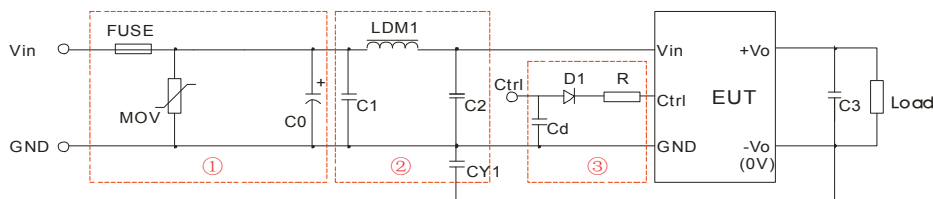

Fig. 3
- ① Part ① in Fig. 3 is used for EMS test while part ② is used for EMI filtering; and parts ① and ② may be selected based on needs.
- ② V_c is the voltage of the Ctrl end relative to the GND of the input grounding; V_D is the positive-going conduction pressure drop of D1; I_c is the current flows into the Ctrl end and its value is generally 5-10mA, see Fig. 3-③ for the peripheral circuit of Ctrl end;
- ③ If there is no recommended parameters, no external component is required.